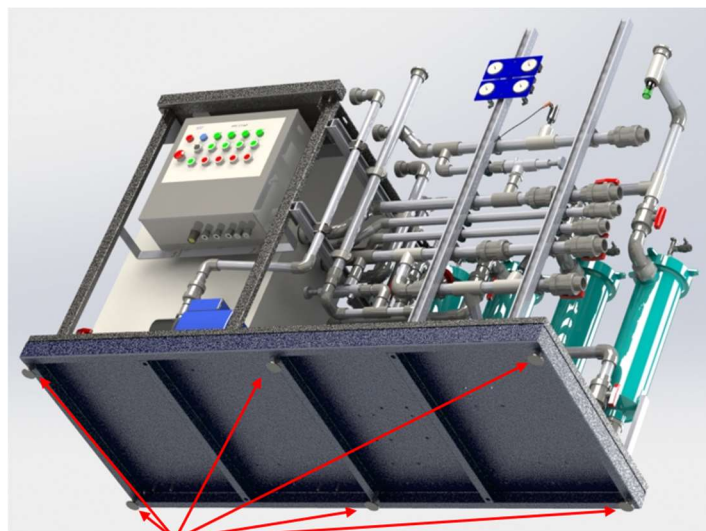

FIGURE 4-3
Prior to assembly the base must be properly leveled and supported at six (6) points. Figure 4-3 shows the leveler location. A standard spirit or bubble level will provide sufficient accuracy for leveling the unit.